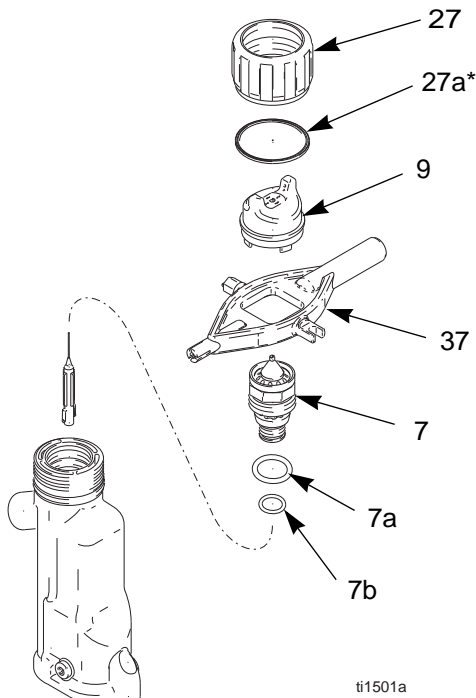

Fig. 25. Air Cap/Nozzle Replacement
2. Remove the retaining ring (27) and air cap (9). See FIG. 25..
3. Point gun up and squeeze trigger while removing the fluid nozzle (7) assembly with the multi-tool (37).